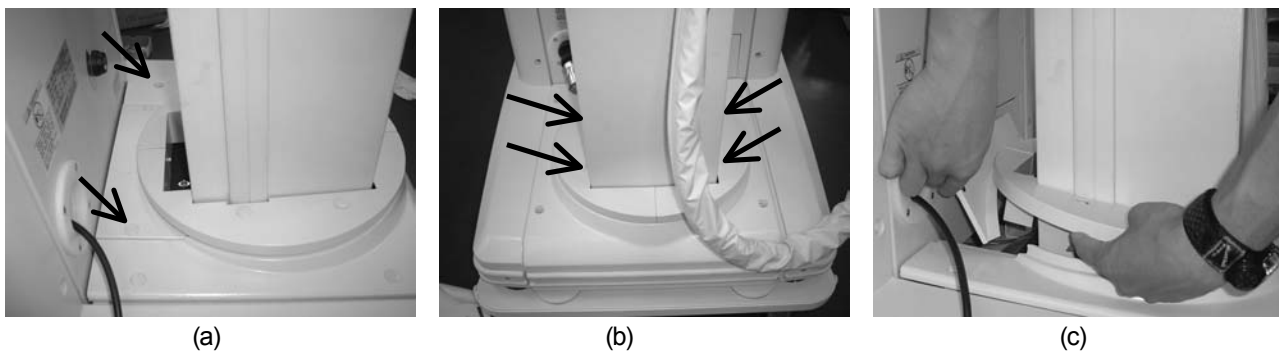

Fig. 6-7 Method of opening/closing the front rear-cover
2. Unscrew the four screws in the column under-cover as shown in Fig. 6-7 (b).
3. Remove the front rear-cover, slightly holding up the column under-cover, as shown in Fig. 6-7 (c).